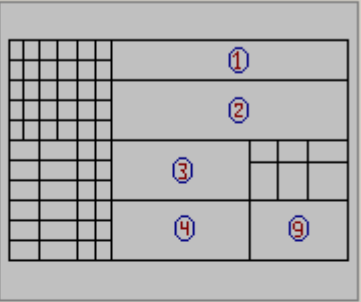

Figure 2.8.4 Contents of the title block for drawings and documents dialog box
- ⇒ In the **Contents of the title block for drawings and documents** dialog box (see Fig.2.8.4), do the following: